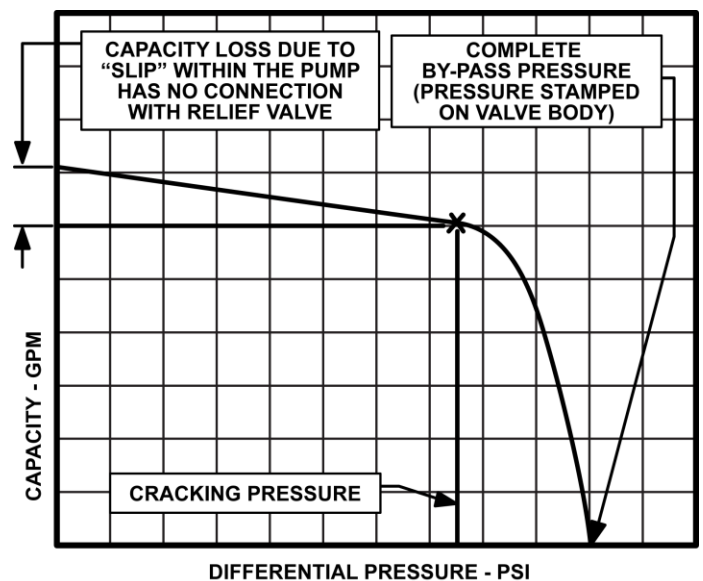

Figure 4
- Cracking Pressure:** The cracking pressure (refer to Figure 4) is the pressure at which the valve begins to open and bypass liquid. The cracking pressure is not affected by pump size, pump capacity, or liquid viscosity. The pump will deliver full capacity (except for slippage loss) at the cracking pressure. Most commercial relief valves use the cracking pressure as their valve setting. The relief valve size is selected by the amount of over pressure desired (pressure between cracking and complete bypass). This over pressure is determined by the capacity and liquid viscosity.
- Complete Bypass Pressure:** The complete bypass pressure (refer to Figure 4) is the pressure at which the entire capacity of the pump is bypassing through the relief valve. No liquid is going through the discharge line. At Viking, this pressure is referred to as the "valve setting." This pressure is stamped on a small boss on the valve body when shipped from Viking. Viking relief valves are normally set in 25 psi increments.
A) The cracking pressure is always less than the complete bypass pressure as shown in Figure 4. The charts on page 5 and 6 show the actual relationship for valves mounted on pumps. The higher the capacity, the greater difference between cracking and complete bypass pressure. Doubling the capacity will nearly double the difference between cracking and full bypass. Higher viscosity liquids will increase the difference because of higher resistance of the more viscous liquids. Higher pressure settings will also increase the difference because of higher spring rates required for the high pressure settings.